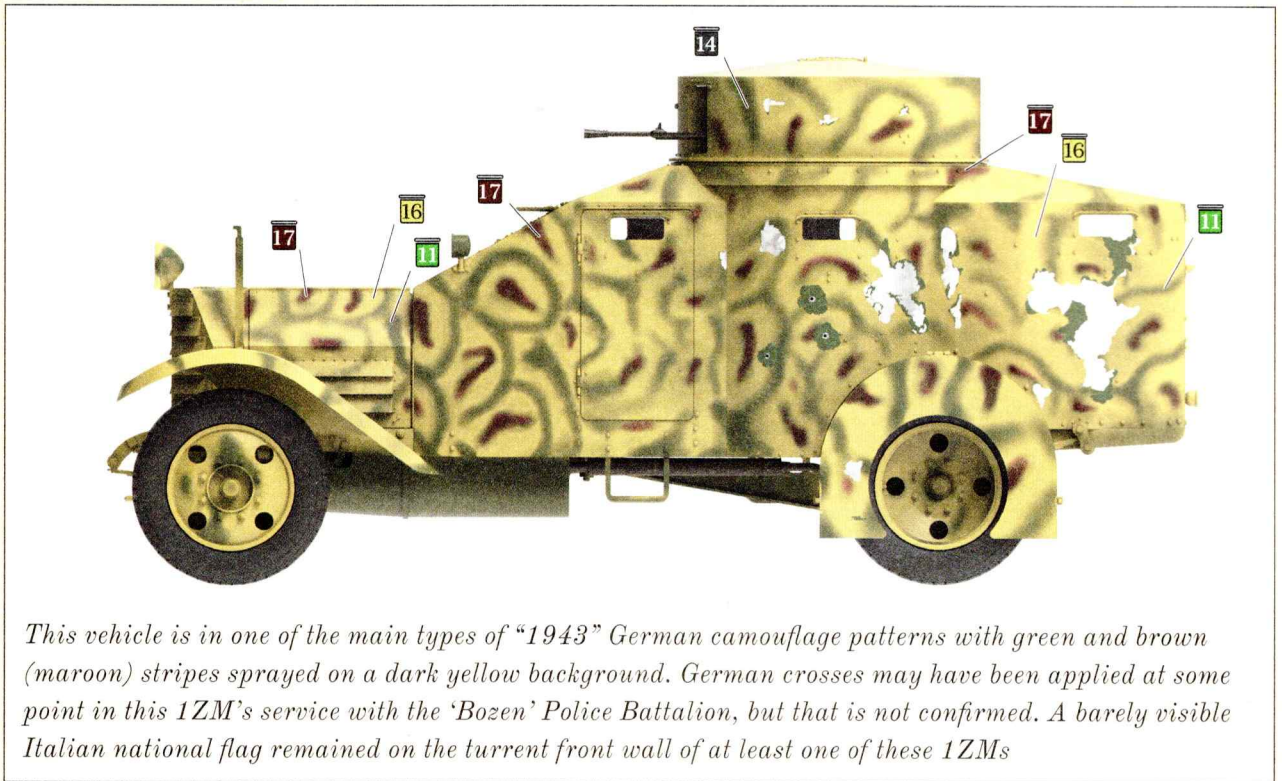

Fig. 22. "Bozen" Police Battalion, Northeast Italy, 1944.
Marking page 20 (Fig.22)
Part F.1 for marking page 20 (Fig.22)
F3/F2 for marking page 20 (Fig.22)
Step 47a. Installation of the turret's Fiat-Revelli 35 MG for markings page 20 (Fig.22)